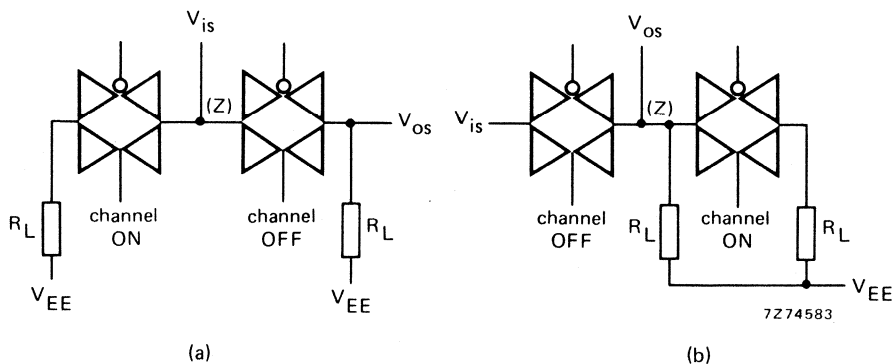

Fig. 4
- $R_L = 1 \text{ k}\Omega$ ;  $V_{is} = \frac{1}{2} V_{DD(p-p)}$  (sine-wave, symmetrical about  $\frac{1}{2} V_{DD}$ );  $20 \log \frac{V_{os}}{V_{is}} = -50 \text{ dB}$ ; see Fig. 4.